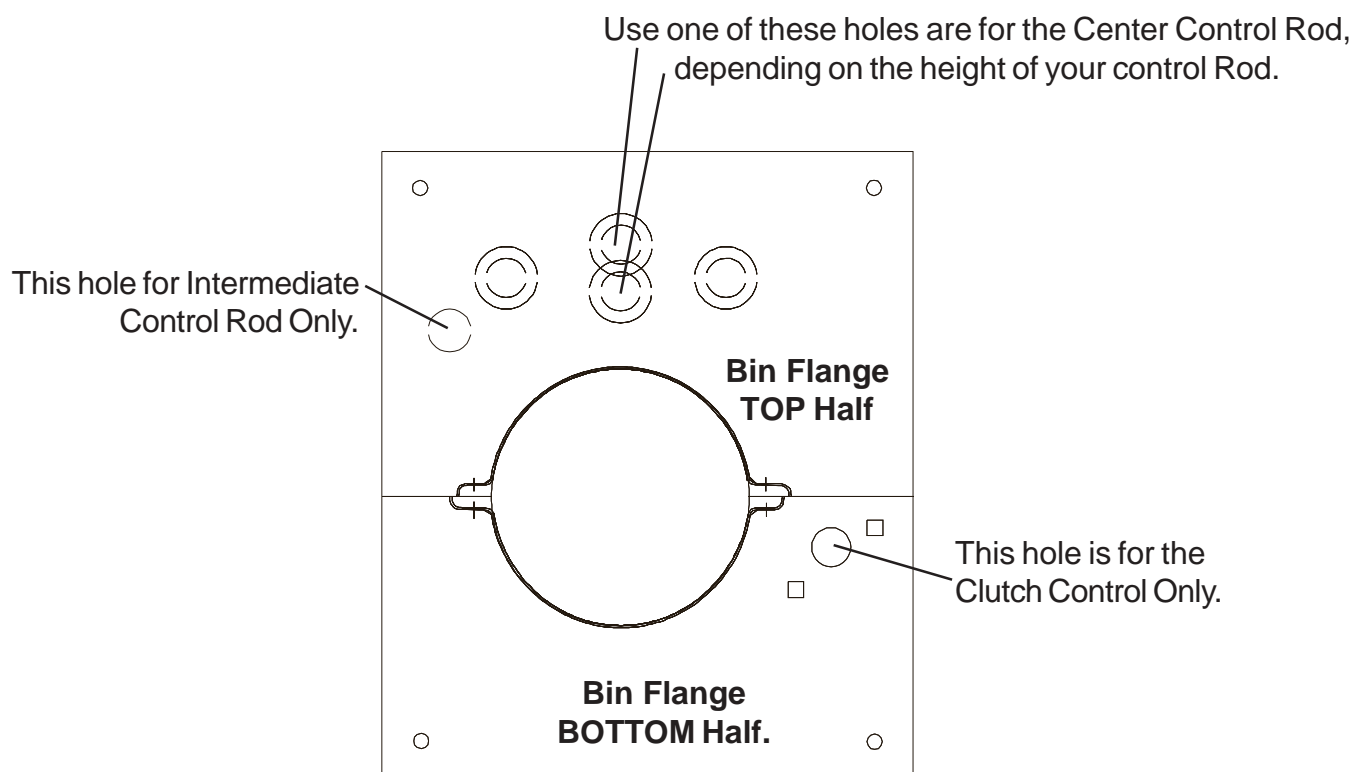

FIGURE 1
- C. Punch out the holes in the bin flange, according to the diagram below. (See Fig. 1)
- E. Install the top and bottom bin flange halves onto the unload tube, connecting them together using two (2) 5/16" x 1-1/2" bolts and nuts.
- F. Attach the decal plate and top bin flange half to the bin wall with self-tapping sheet metal screws. (See Fig. 1)